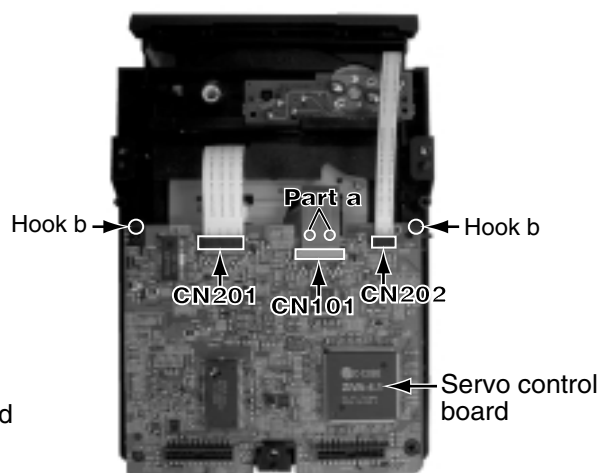

Fig.4
■ Removing the servo control board (see Fig.4)